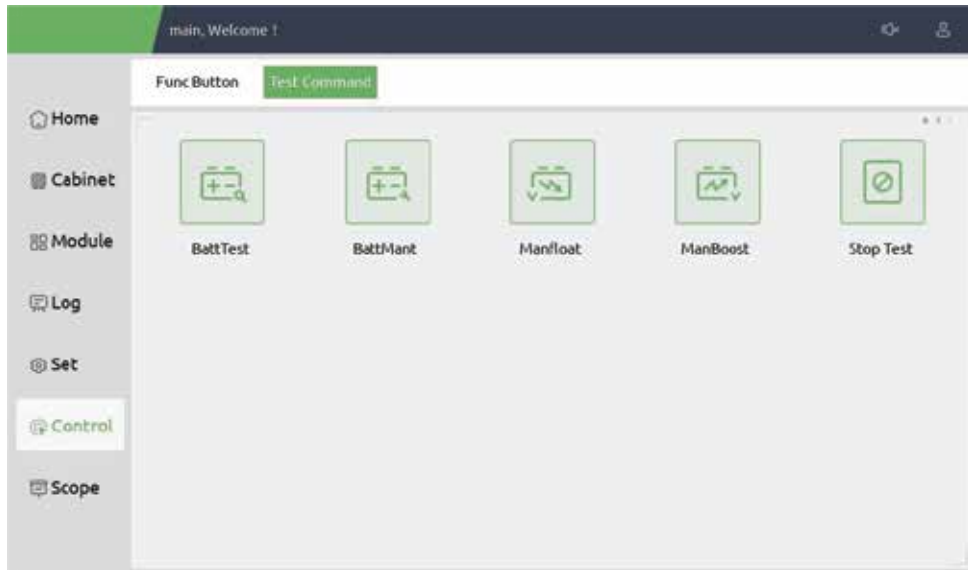

Figure 5-3 Battery maintenance
- 1) Manual discharge test. Enter the "Control" menu, as is shown in Figure 5-3 and touch